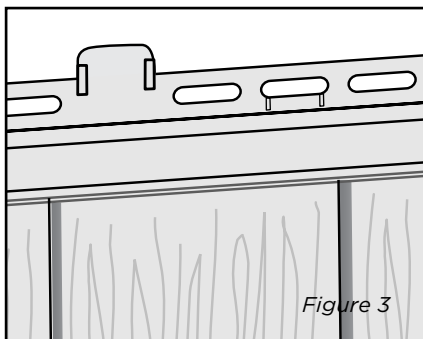

Figure 3
3. Fasten the panel to the wall by first nailing through the round center hole in the nailing hem at the top of the panel. Continue nailing the panel with 5 nails: one in the right-end nail slot and one at each of the QuickReference™ Nail Mark Indicators (*Figure 3*). Leave 1/8" to 1/16" between the nail heads and the panel to allow freedom of movement during normal expansion and contraction. The D7 panel features NailStop™ to guide in correct nail head clearance.